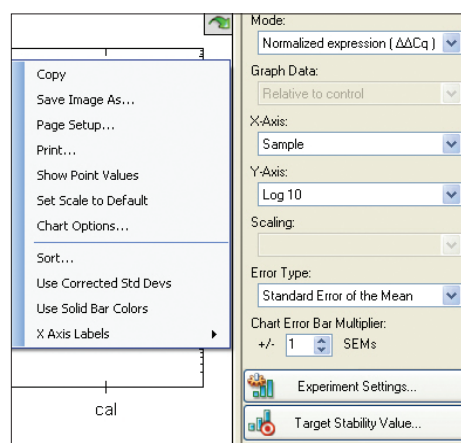

Fig. 4. Graphing analysis options and right-click graph menu.
- Select the analysis mode from the Mode drop-down menu (Figure 4):